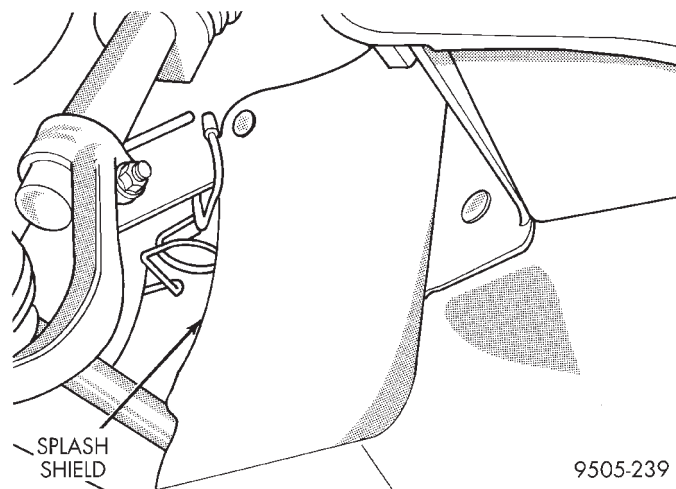
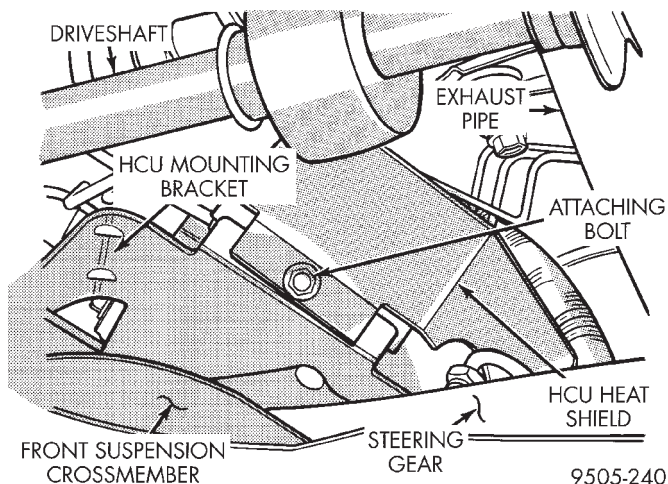

**Fig. 15 Right Side Splash Shield**
**Fig. 16 HCU Heat Shield**
(7) Remove right side engine compartment splash shield (Fig. 15) from the vehicle.
(8) Remove the HCU heat shield (Fig. 16) from the HCU mounting bracket.
(8) Install the HCU heat shield (Fig. 16) on the HCU mounting bracket. Install and securely tighten attaching bolt.
(9) Install exhaust system in vehicle using the reverse steps of its removal.
(10) Install right side engine compartment splash shield (Fig. 15) back on the vehicle.